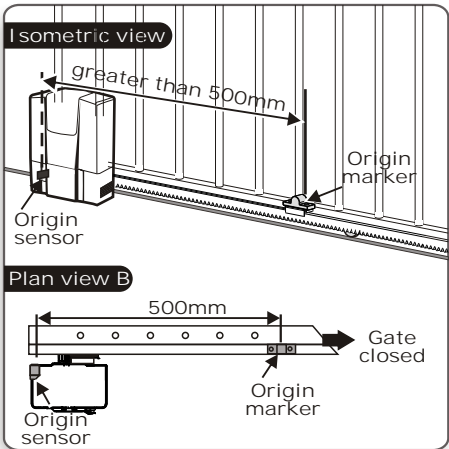

FIGURE 31
- Mount the origin marker to the rack a minimum of 500mm from the origin sensor. Refer to Figure 31, isometric view A or plan view B.